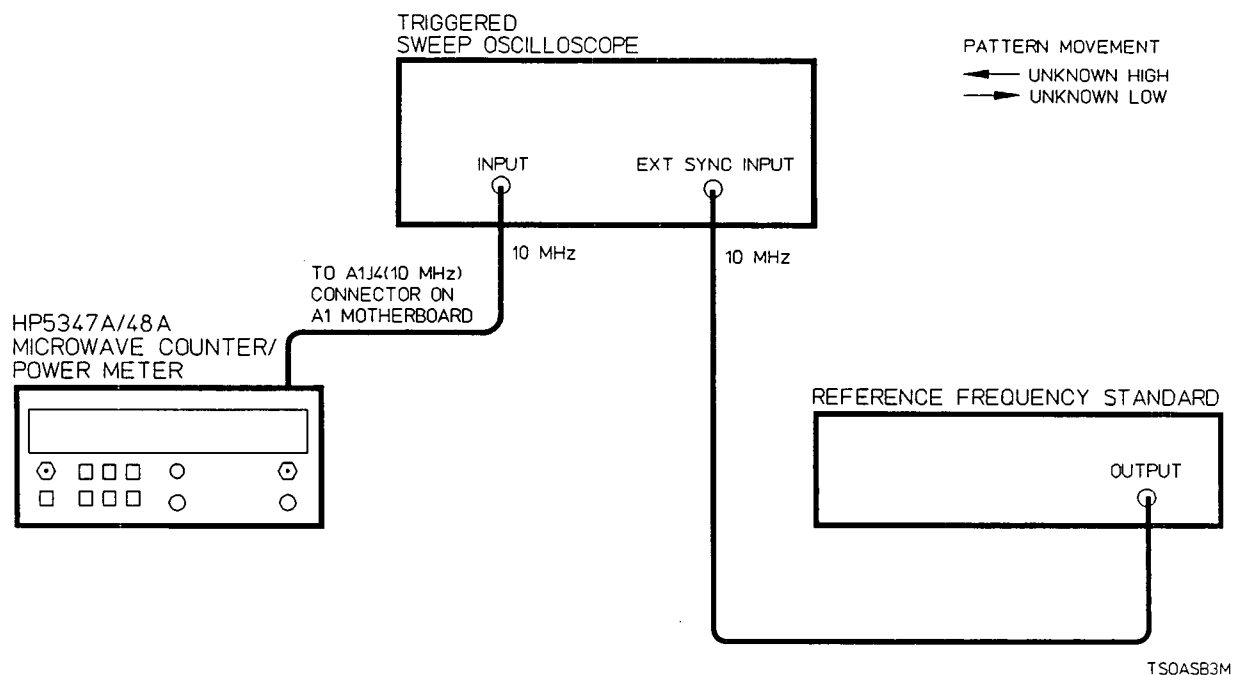

Figure 5-6. Oscillator Adjustment Setup
1. Connect a house standard (10 MHz reference frequency) to the EXTERNAL SYNC INPUT of an oscilloscope and set the oscilloscope to EXTERNAL SYNC. Connect the HP 5347A/48A 10 MHz connector (A1J4) on the A1 Motherboard to the Channel A input of the oscilloscope as shown in *Figure 5-6*. (Note: A1J4 is a SMB connector. Thus, use the LO Test cable [HP P/N 05350-60120; SMB-to-BNC adapter cable] to help with connection to the Power Sensor. The LO Test cable is in the Service Accessory Kit.)